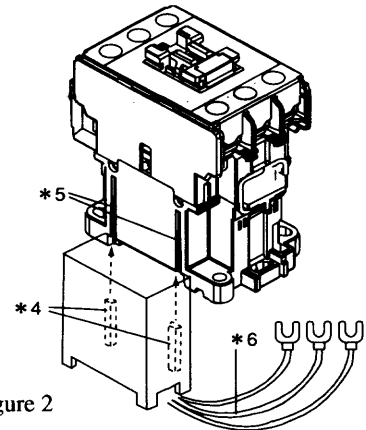

Figure 2
**2.2 Side-Mounting (Figure 2)**